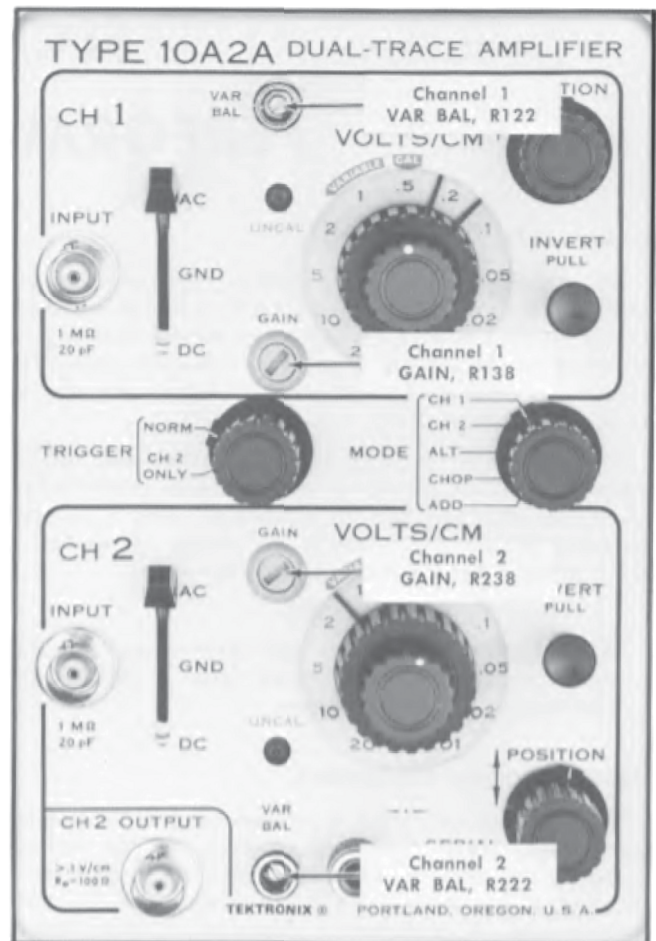

Fig. 5-1. Location of channel 1 VAR BAL control, R122 and channel 2 VAR BAL control, R222.
a. Adjust the Channel 1 VAR BAL control R122 (see Fig. 5-1), to position the displayed trace at the graticule center horizontal line.
c. **ADJUST**—VAR BAL control R122 (see Fig. 5-1). Set the VARIABLE (VOLTS/CM) control fully counterclockwise and note the trace position. Then rotate the control to the CAL position and again note the position of the trace.
- Adjust the Channel 2 VAR BAL control R222 (see Fig. 5-1), to position the displayed trace at the graticule center horizontal line.
- ADJUST—VAR BAL control R222 (see Fig. 5-1). Set the VARIABLE (VOLTS/CM) control fully counterclockwise and note the trace position. Then rotate the control to the CAL position and again note the position of the trace.
- Rotate the Type 10A2A channel 1 front-panel GAIN control (see Fig. 5-1) from one extreme to the other.
- ADJUST—Channel 1 GAIN control, R138 (see Fig. 5-1) for a display exactly 5 cm high.
- Rotate the Type 10A2A channel 2 front-panel GAIN control (see Fig. 5-1) from one extreme to the other.
- ADJUST—Channel 2 GAIN control, R238 (see Fig. 5-1) for a display exactly 5 cm high.
g. ADJUST—Channel 2 GAIN control R238 (see Fig. 5-1), until the display consists of only a single trace, i.e., the channel 1 and 2 signals have completely cancelled each other.